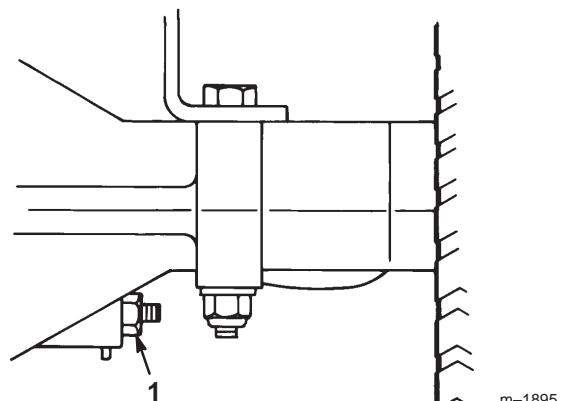

Figure 21
The brake is on the right side of the rear axle, inside the rear tire (Fig. 21). If the brake does not hold securely or stopping power is insufficient, an adjustment is required.
2. To increase braking resistance, tighten the brake adjusting nut (Fig. 21) 1/8 turn clockwise; then check the brake again. Continue this adjusting and checking process until the brake is set properly.